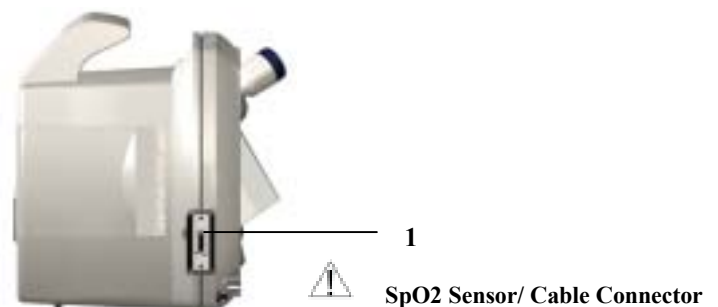

Figure 5. SpO2 Sensor/Cable Connections
4. Connect the cable to the right panel SpO2 connector (see Figure 5).